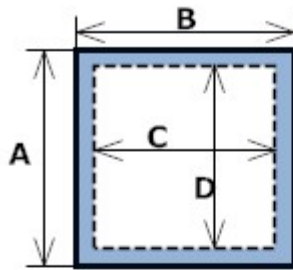
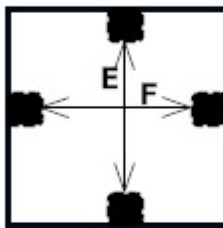

Fig 1
Fig 2
A,B,H External Dimensions of Drain (Figs 1&3)
C,D,E,F,G,J Internal Dimensions of Top Opening (Figs 1,2,3,&4)
1. Does the top grid sit on a continuous lip (Figs 1,3) or on a small projecting lugs (figs 2,4)